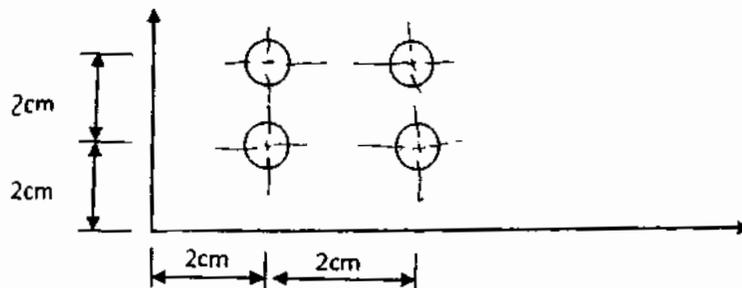

Fig. 1
- b) Fig. 1 shows a matrix of holes to be drilled in a job. The number of holes in the x-direction is 5 and number of holes in the y-direction is 7. Write an APT program using MACRO feature to establish the hole coordinates. 10